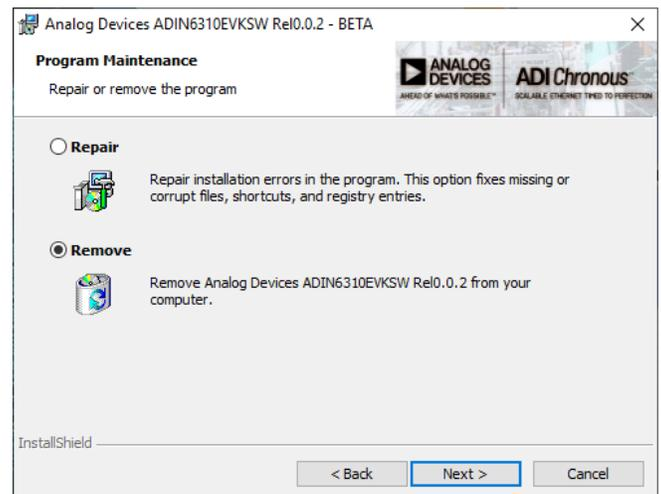

Figure 8. Remove or Repair Installation
1. Select **Repair** or **Remove** and click **Next** (see Figure 8).